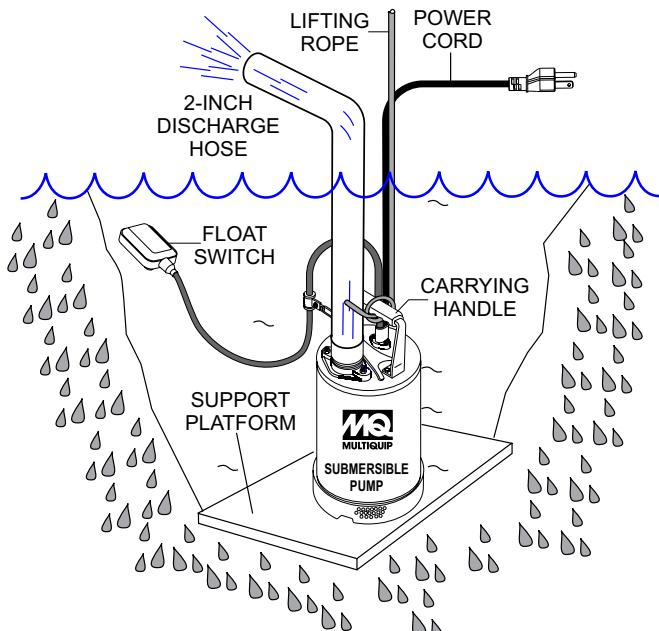

Figure 6. Submersible Pump Upright Position (Correct)
1. Connect a 2-inch hose to the discharge port on the pump as shown in Figure 6. Make sure that the hose is attached correctly to the discharge port.
1. Attach a suitable lifting cable (rope) to the carrying handle (Figure 6) on the pump and lower the pump into place. For applications where there is an excessive amount of mud, grit or silt, the use of a support platform is desirable. When pumping water from applications where there is little or no debris, the support platform is not required.